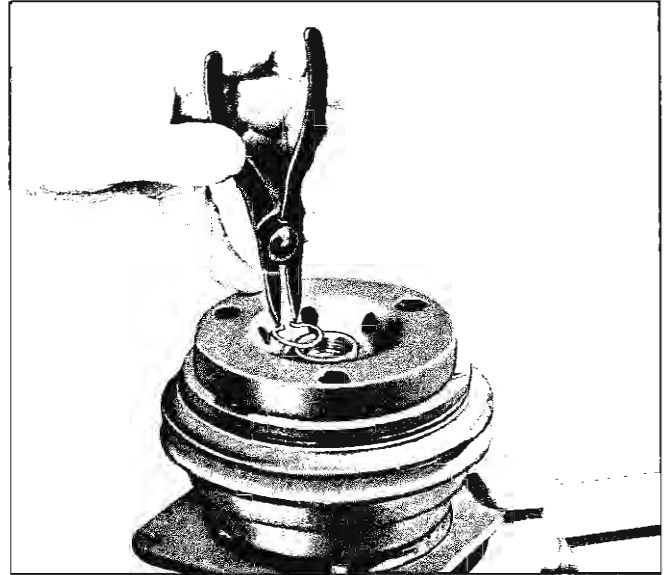

Fig. 28—Removing Pulley and Bearing Assembly Retainer Ring
- Using snap ring pliers J-6435, remove the pulley and bearing retainer ring (fig. 28).